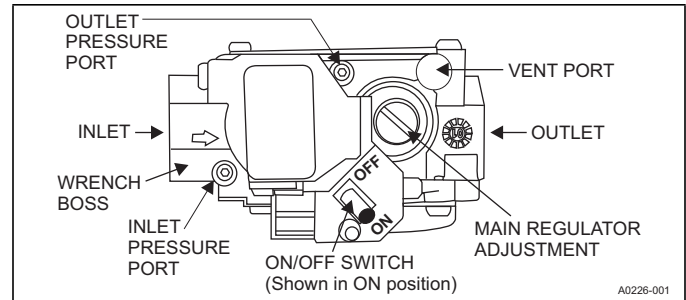

FIGURE 18: Gas Valve
Inlet and manifold gas pressure can be measured by connecting the U tube manometer to the gas valve with a piece of tubing. Follow the appropriate section in the instructions below. Refer to Figure 18 for a drawing of the locations of the pressure ports on the gas valve.
1. Refer to Figure 18 for location of pressure regulator adjustment cap and adjustment screws on main gas valve.